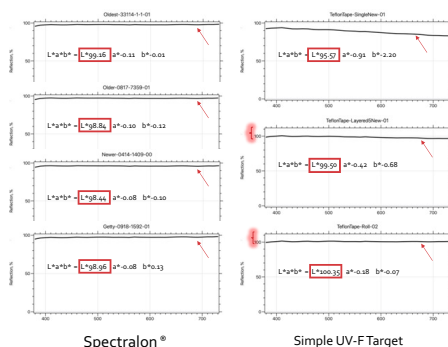

Figure 4. Reflectance measurements
- Gregtagmacbeth i1Pro (1) Spectrophotometer (380-730 nm)
- X-Rite i1Pro (3) Spectrophotometer (380-730 nm)
Using the i1Pro (3) Spectrophotometer and processing the data using SpectraShop™ 6 (CIELAB 1976) spectral curves were obtained for four different 99% reflectance Spectralon® standards, three one-inch round and one 2x2 inch (left side of figure 4). From the graphs we can clearly see that the reflectance behavior is as expected, a linear response (for clean and soiled targets) at or close to 99% reflectance in the visible spectrum range of 380 to 730 nm. L\*a\*b\* values are shown as reference as well.
we can see that the curves obtained vary depending on the amount of PTFE layers used. When a single layer of PTFE is used, we can see reflectance interference coming from the shiny foil underneath, causing the curve to slope down at higher visible nanometer values (Figure 4, top right graph). In contrast when we measured the 5-layer PTFE tape, the shiny foil effect is eliminated, and we obtain a straight-line across the spectrum very much like the Spectralon's® one (Figure 4, middle right graph).
The last graph was made out of curiosity to see what result would be obtained when measuring the PTFE tape directly in its spool (Figure 4, bottom right graph).